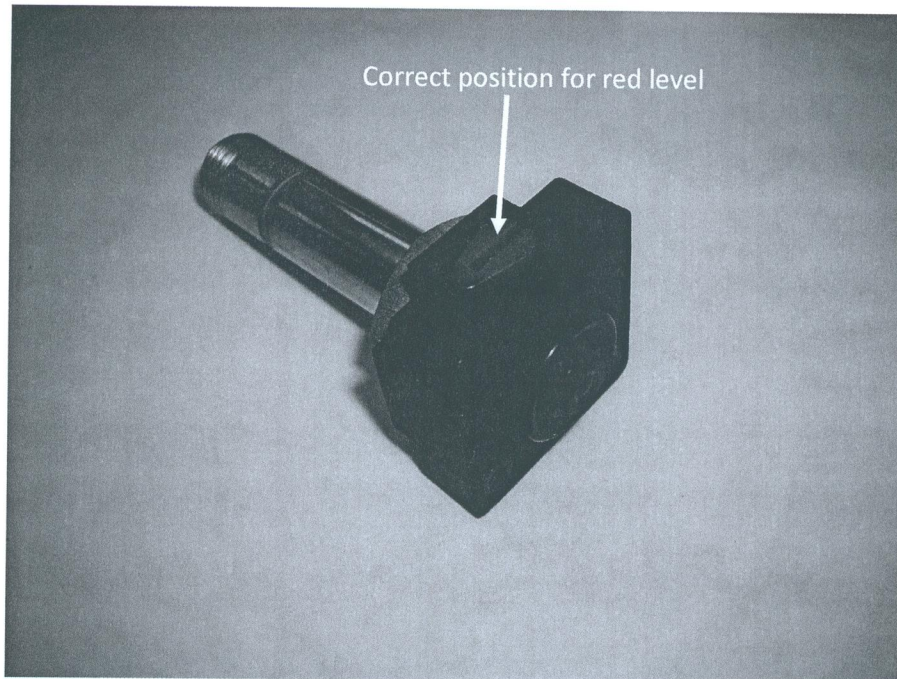

Fig 23
- Pull the old valve seal off the plunger of the valve. Obtain a mew valve MV01-0035 and press back onto the valve. Refer to figure 23.